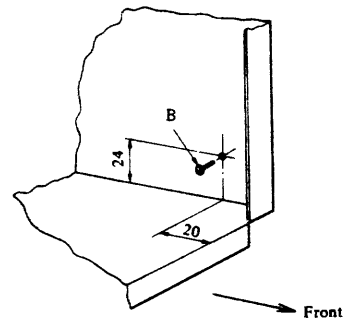

Figure 2.2.8 Mounting rails removal (2)
- (c) Remove the philips type screw B indicated in Figure 2.2.8. Remove the left side screw in the same manner.